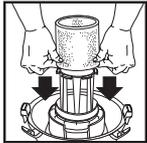

FIGURE 35
48. With tank cover in an upside down position, slide foam sleeve down over lid cage pulling until foam sleeve completely covers lid cage. **FIGURE 35.**